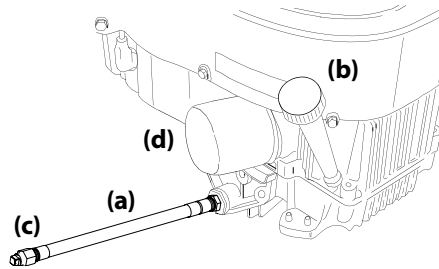

Figure 4-1
- Locate the oil drain hose (a) on the right side of the engine. See Figure 4-1.
- While holding the free end of the oil drain hose (a) over the oil collection container, unscrew the square head hose plug (c) from the end of the oil drain hose (a). See Figure 4-1. Drain the engine oil into the collection container.